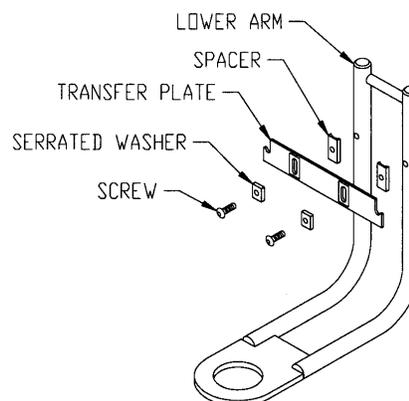

Figure 3
24. Assemble the transfer plate as shown in figure 3, leaving the screws loose.